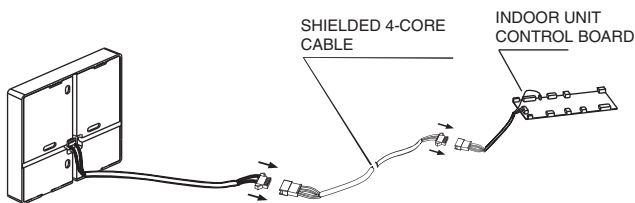

Fig. 1 — Controller Connection
4. Connect one end of the shielded 4-core control cable to the control board on the unit. (The other end will be connected to the controller.) See Fig. 1.